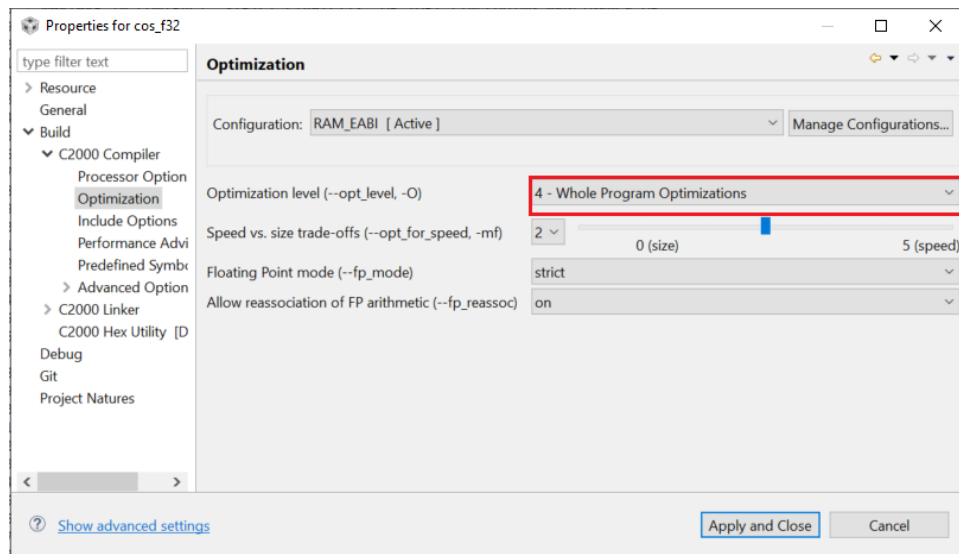

Figure 4.11: Changing Optimisation Settings
- For sin32, cos32 and sincos32 examples on devices with limited memory, change optimisation settings as shown in Figure 4.11.